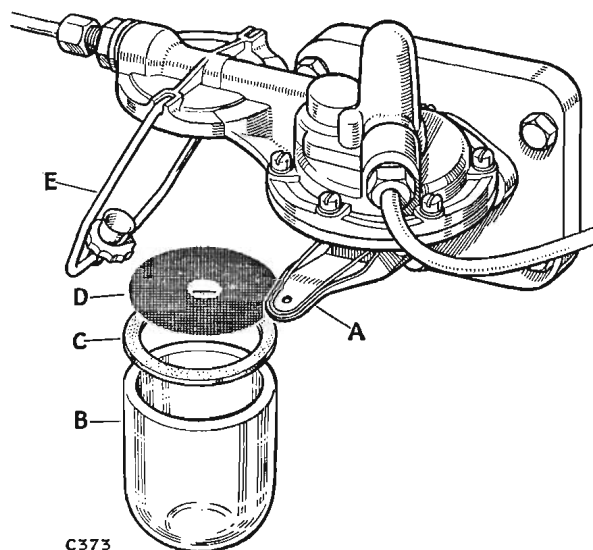

Fig. 34. Fuel pump and sediment bowl.
3. Operate the hand priming lever 'A', Fig. 34, on the mechanical pump until fuel free from bubbles emerges.
9. Operate the fuel pump hand priming lever until fuel free of air emerges. See hand lever 'A', Fig. 34.
11. To ensure that all air is exhausted from the pump it may also be necessary to slacken air vent screw 'B' in the distributor control cover and repeat items 9 and 10.